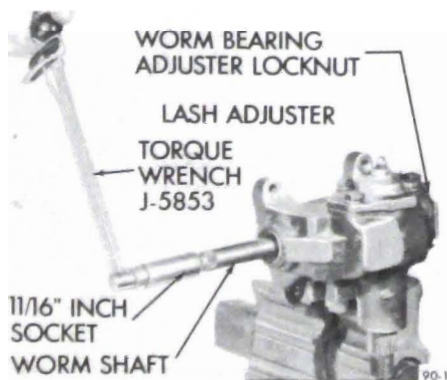

Figure 90-1 Checking Adjustments on Bench
1. Attach inch-pound torque wrench (J-5853) to worm shaft and rotate shaft to extreme right or left position. See Figure 90-1.
7. If necessary adjust worm bearing preload by loosening worm bearing adjuster lock nut (see Figure 90-1) using a drift. Turn bearing adjuster as required to bring torque to 5 to 8 inch pounds. Tighten locking nut, then recheck preload.